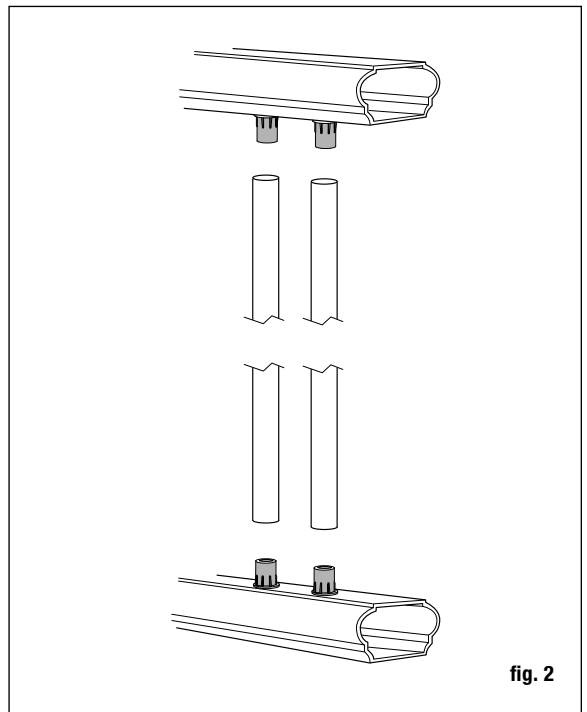

fig. 2
Step 13 Attach baluster to the lower rail by sliding onto connection (fig. 2).